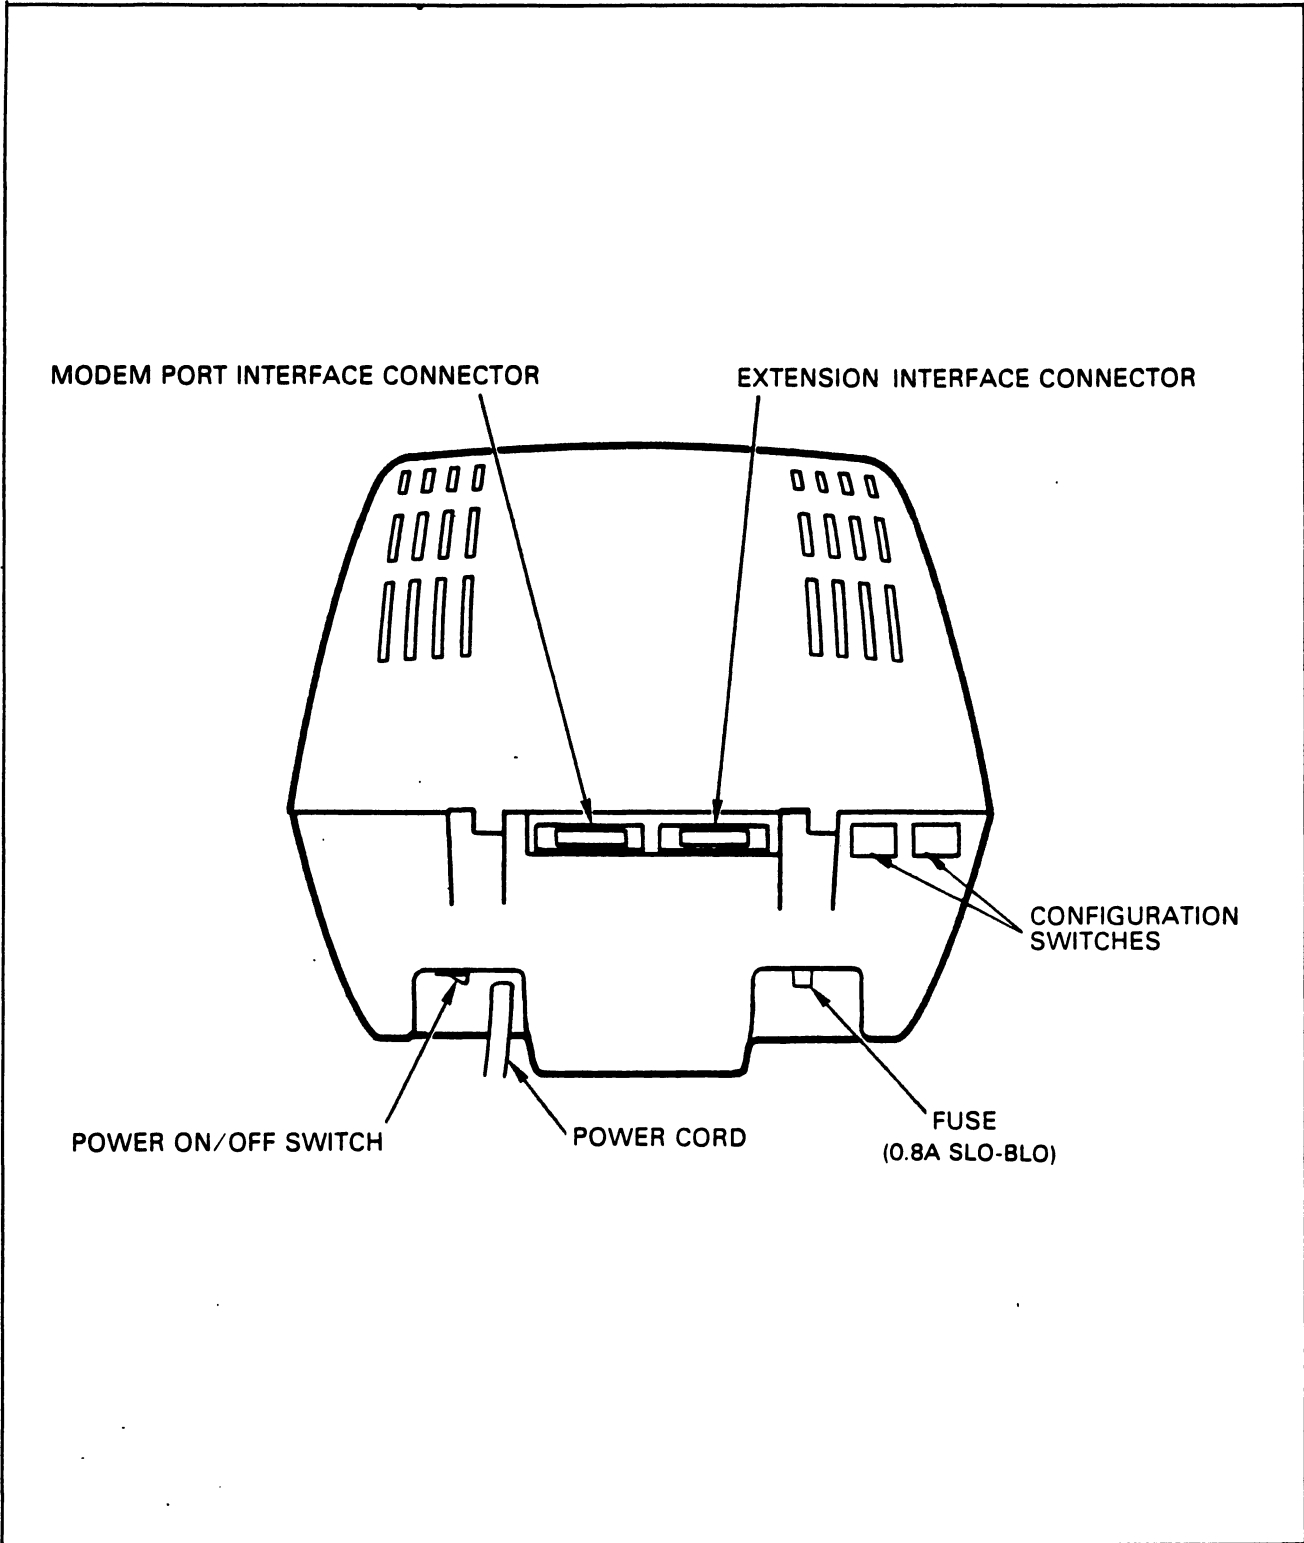

Figure 2-5. ADM 5 Rear Panel Controls
1. Verify that the POWER ON/OFF switch is OFF. See figure 2-5.
1. Set the POWER ON/OFF switch to ON. See figure 2-5.